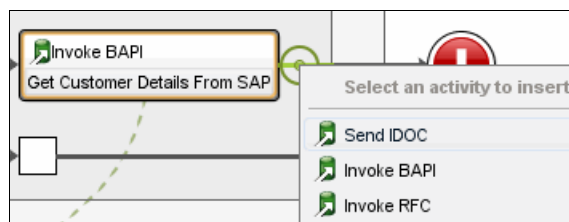

Figure 10-102 Create SAP update activity
2. Select **Invoke BAPI**, as shown in Figure 10-102.